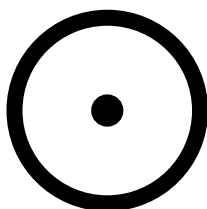

Figure 8.2 Laser pointer temperature measurement spot.
4. With the laser enabled, press and hold the Laser button to switch it ON, and release it to switch it OFF. The laser's circular spot projection (**Figure 8.2**) indicates the area of the test surface whose temperature is displayed in °C or °F, using *Diffractive Optical Elements* (DOE) technology.
7. With the laser enabled, press and hold the Laser button to switch it ON, and release it to switch it OFF. The laser's circular spot projection (**Figure 8.2**) indicates the area of the test surface whose temperature is displayed in °C or °F. For distance-to-spot ratio information, see Section 8.3, above.